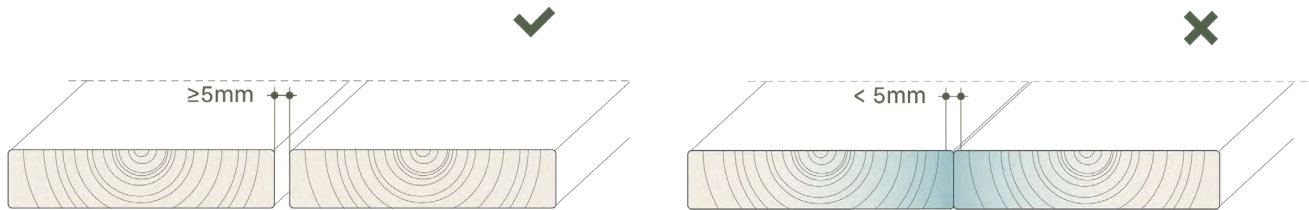

Fig. 1
- Leave gaps  $\geq 5$  mm between boards lengthwise (see Fig. 1)